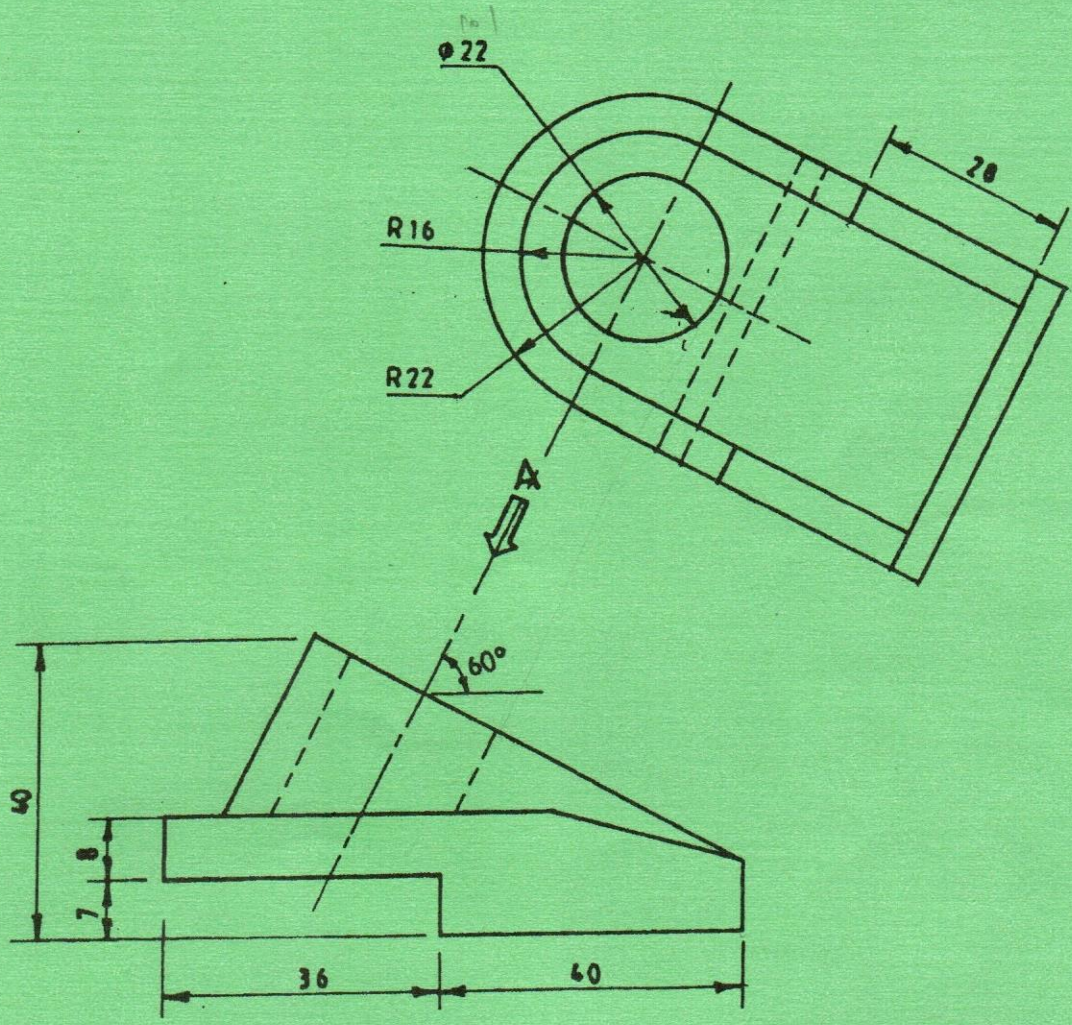

Fig. 5
5. Figure 5 shows a front view of a machined component and its auxiliary plan view drawn in third angle projection from direction A.